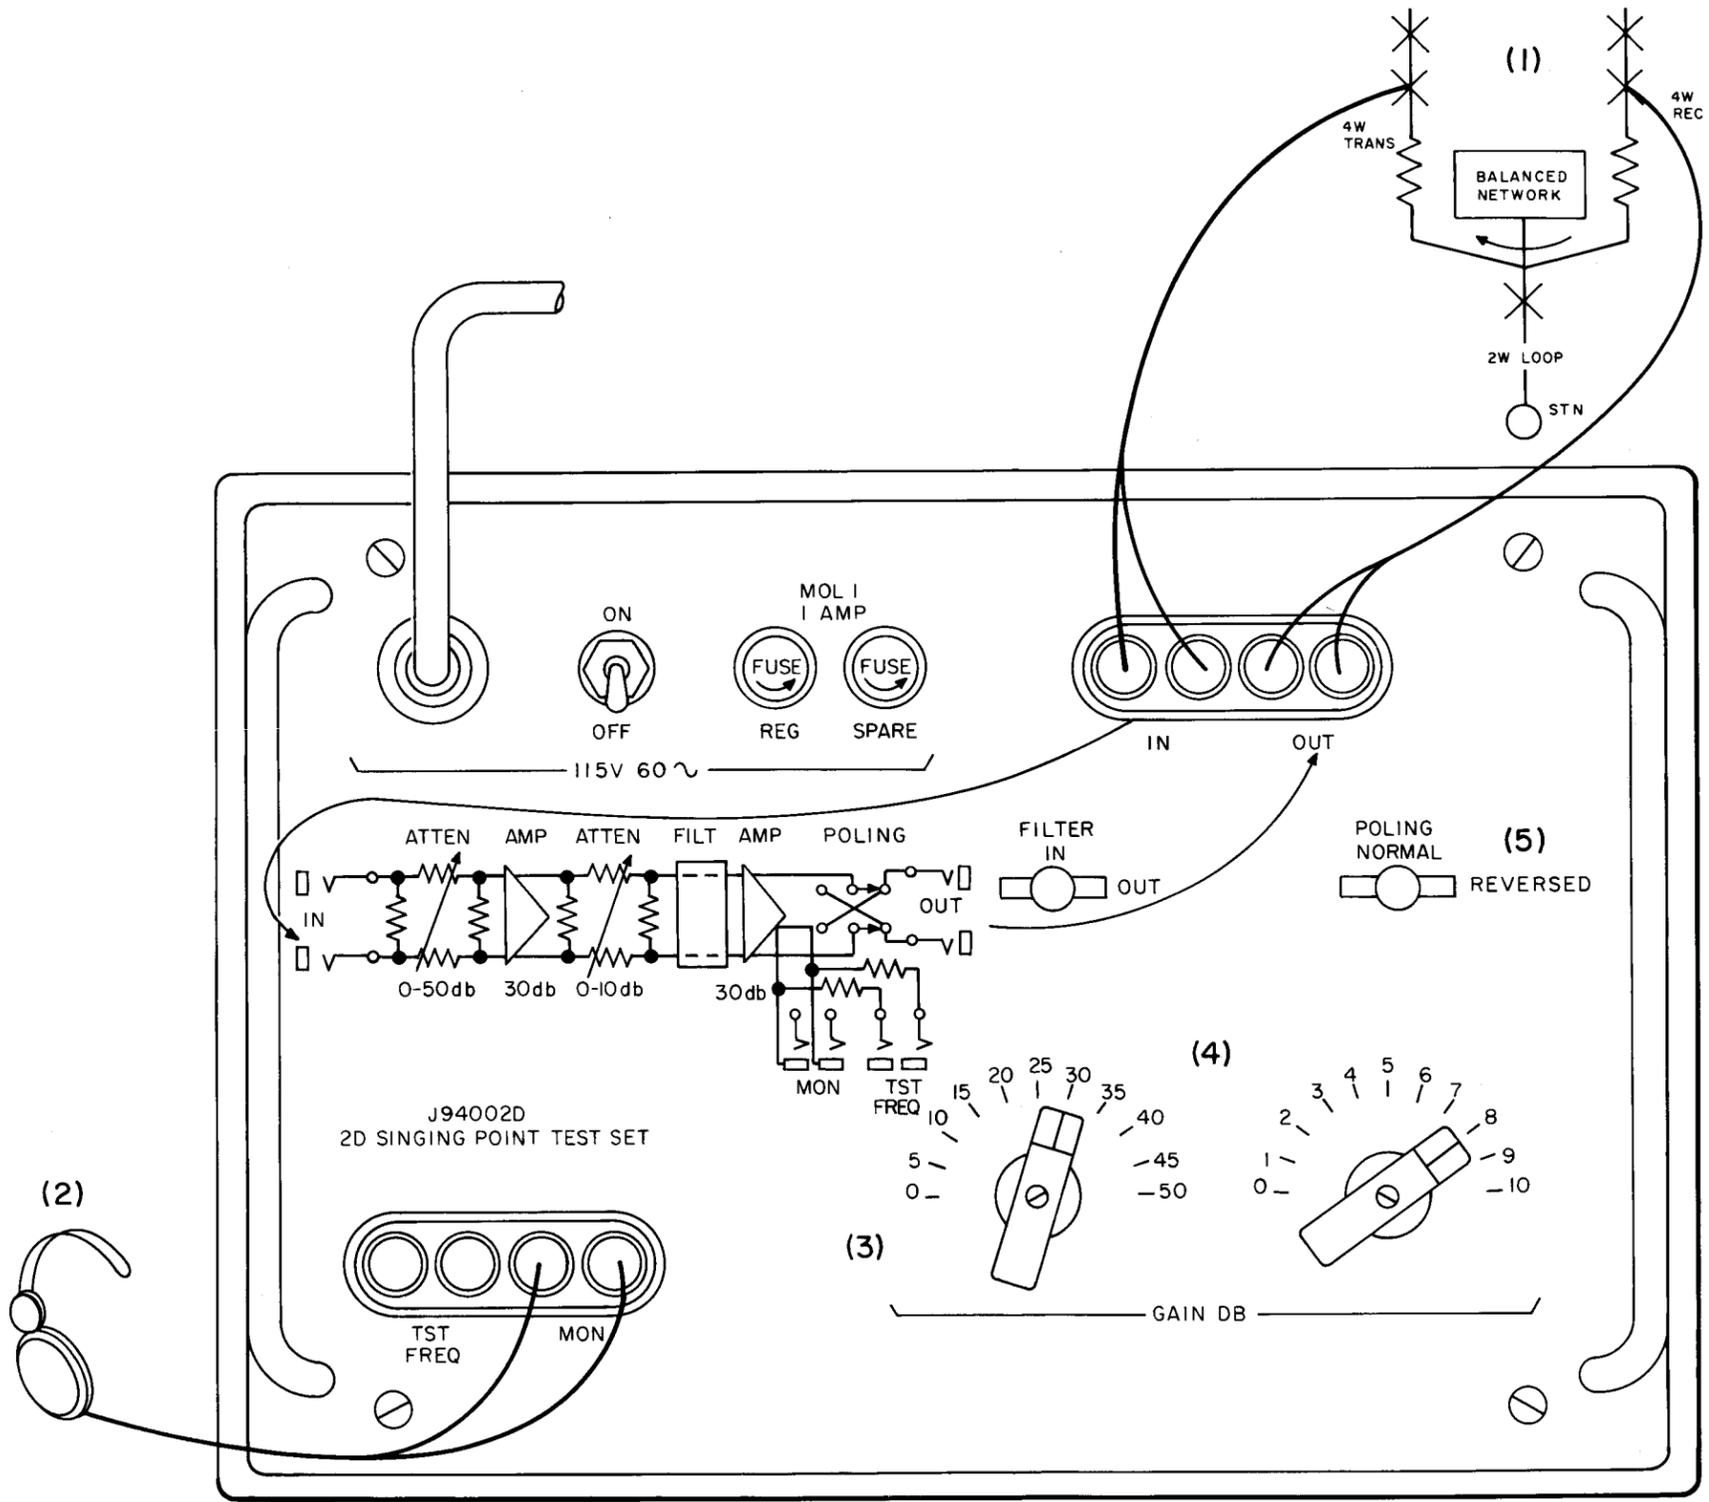

Fig. 4-26—Typical Test Arrangement
- (5) Turn GAIN DB dials to 0.
- (6) Connect the headset to the 2D test set.
- (7) Connect the 4-wire transmitting path of the circuit under test to the IN jack of the set and the 4-wire receiving path of the circuit under test to the OUT jack (Fig. 4-26). (See Note following Step 12.)
- (8) Turn the 50-dB dial clockwise until singing is heard in the headset and then turn it back one step (5 dB). The singing should cease; but if not, turn the dial back another step.
- (9) Turn the 10-dB dial clockwise slowly to 6 or until sustained singing begins. Singing should have begun before reaching 6; but if it has not, turn the 10-dB dial to 1 and increase the 50-dB dial 5 dB (1 step); then, the 10-dB dial should be turned slowly clockwise until a sustained singing is heard.
- (10) Operate the POLING switch to REVERSE and repeat Steps 8 and 9.
- (11) The POLING (NORMAL or REVERSE) value that is the smaller (total of both dials) should be taken as the gain necessary to cause the circuit to sing.
- (12) Singing point (SP) is determined by: